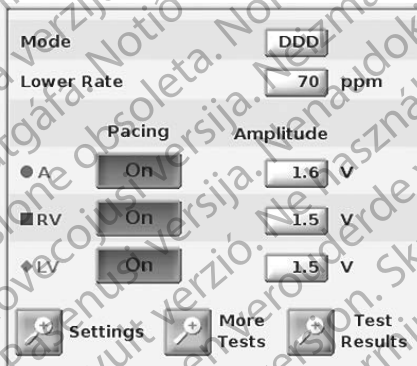

Figure 9. PSA Pacing and Amplitude panel
- PSA Pacing and Amplitude panel (Figure 9 on page 20)